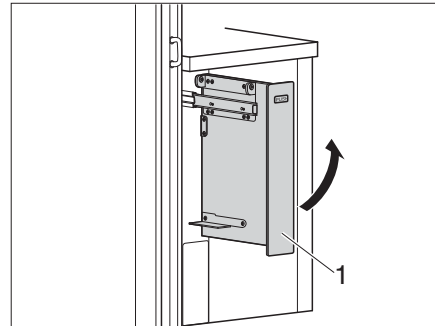

Fig. 120 Swing the extension upwards
- Swivel the extension (Fig. 120,1) upwards.
- Swivel the extension (Fig. 120,1) downwards.